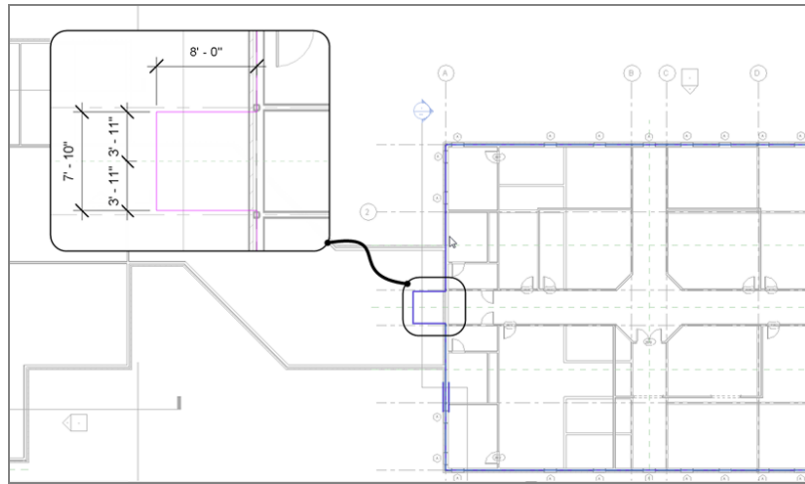

FIGURE 10.33: Creating a landing. You'll add a door in a moment.
2. Zoom in on the area between the corridor and the east wing, as shown in Figure 10.33.